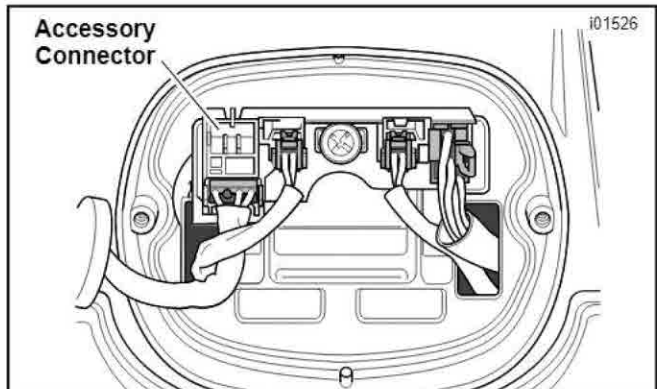

Figure 6. Connecting the License Plate Frame
- See Figure 6. Plug the socket housing into the Accessory connector at the upper left of the tail lamp circuit board. Use tie straps (12) from the kit as needed to secure the wiring.
- Peel the backing off of the reflector (8) from the kit. Hold the reflector up to the license plate bracket just below the new license plate frame, and press firmly into place. Proceed to Step 22, on Page 6.